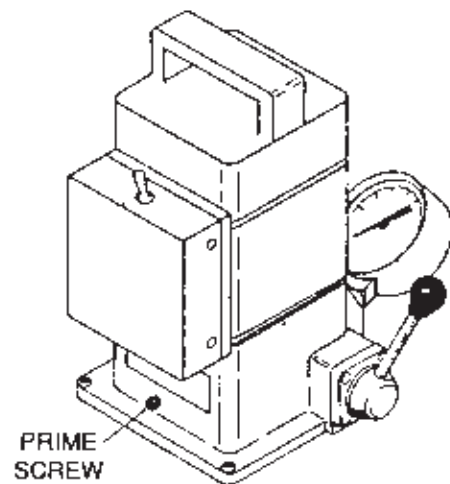

Figure 2
1. Back the priming screw out two complete turns. See Figure 2.